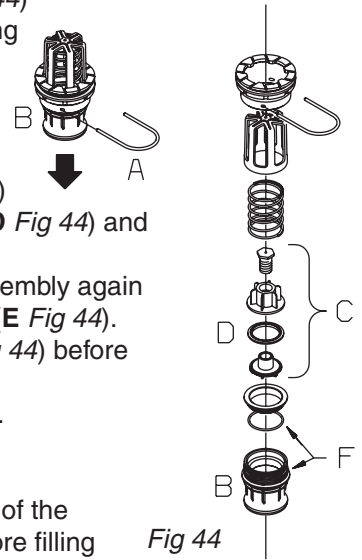

Fig 44
3. Pull out the clip (A Fig 44) and pull down connecting piece (B Fig 44). The entire valve assembly can now be pulled out.
4. Check cord and valve flap assembly (C Fig 44) for wear, replace seal (D Fig 44) and assemble again.
5. Assemble the valve assembly again using a new valve seat (E Fig 44). Lubricate O-rings (F Fig 44) before assembly.
6. Fit clip (A Fig 44) again.